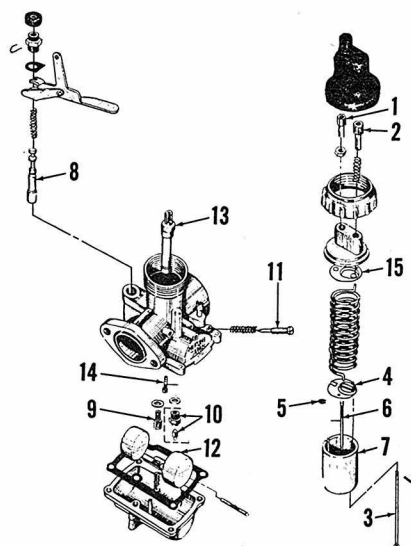

Fig. S5-1—Exploded view of typical Mikuni carburetor used.
**CARBURETORS.** Two Mikuni VM 22SH carburetors are used on X-5 (200cc) models. Two Mikuni VM 24SH carburetors are used on X-6 (250cc) models. The idle mixture is changed by turning needle (11—Fig. S5-1). Initial setting is 1½-1¾ turns open.
by bending tang (17) on float. Refer to Fig. S5-1 and the following specifications: